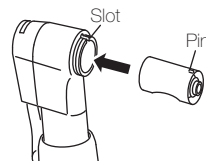

Fig. 13
- 5) Insert the new cartridge, with its pin aligned in the slot of the head. (Fig.13)